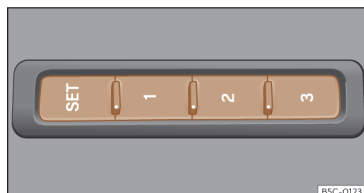

Fig. 110 On the outer side of the driver's seat: memory buttons.
- Press **SET** for longer than 1 second »» Fig. 110.